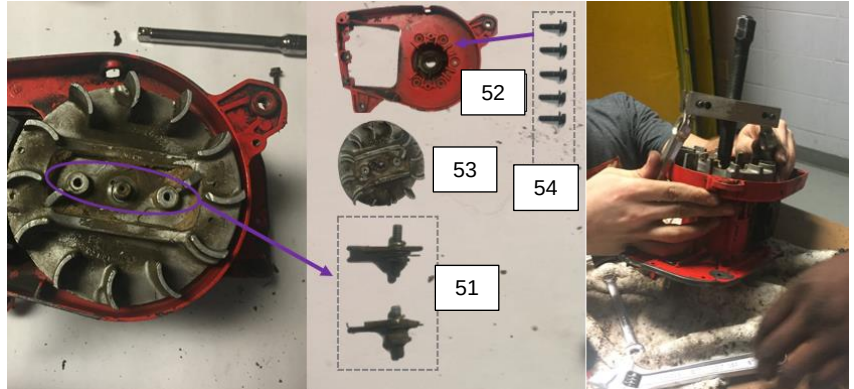

Figure 24: Flywheel Subassembly Removal
Step 21: Rotating back over to the Pull Starter Housing Side, manually twist to loosen and remove the two Starter Spring Mechanisms (51) from the Flywheel (53). Use a Flywheel Puller to remove the Flywheel from the Flywheel Housing (52). Then use a 5/16in socket wrench to unscrew the five Flywheel Housing Bolts (54) and manually lift up to remove the Flywheel Housing. (Figure 24)